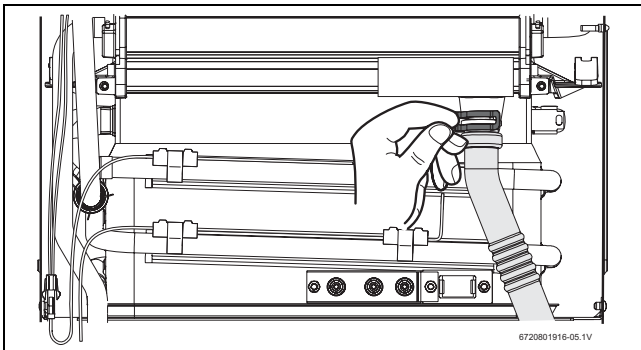

Fig. 72
- ▶ Remove the clip and disconnect the drain tube (→ Fig. 72).